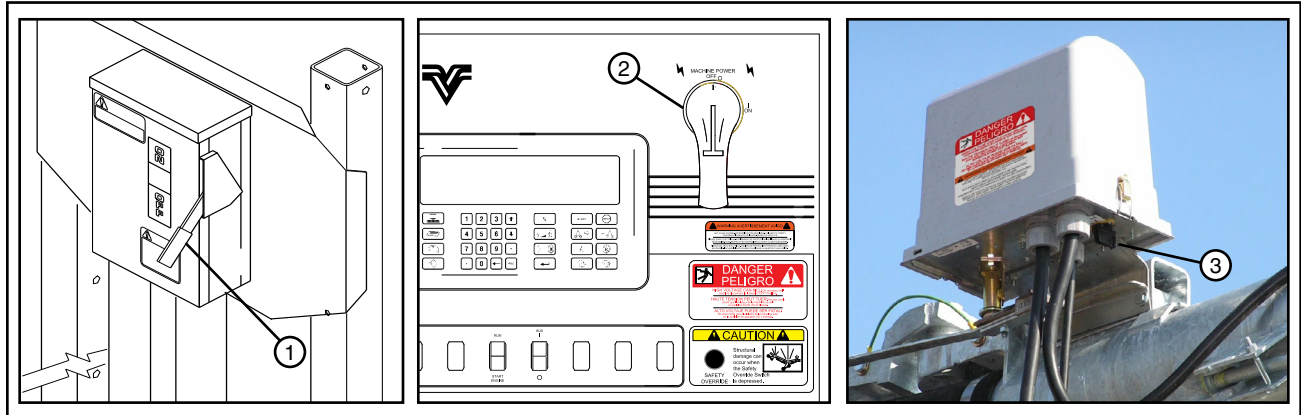

Figure 35-1 1. Main Service Disconnect Switch
- Main Service Disconnect Switch from public power to the control panel. See Figure 35-1.
- Control Panel Main Disconnect Switch. See Figure 35-1.
- Any Tower Box Disconnect Switch. See Figure 35-1.